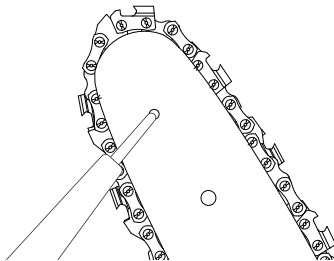

Fig. 28
2. Using a grease gun, insert the tip of the gun into the lubrication hole and inject grease until it appears at the outside edge of the sprocket tip. (Fig. 28)